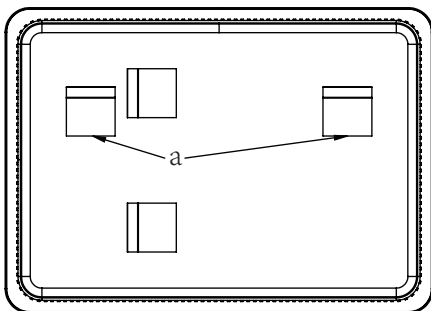

Fig. 1
1. Make certain the wall is solid, and use the Tape measure to measure the distance between two hangers on the back of the mirror ("a" in Fig. 1).